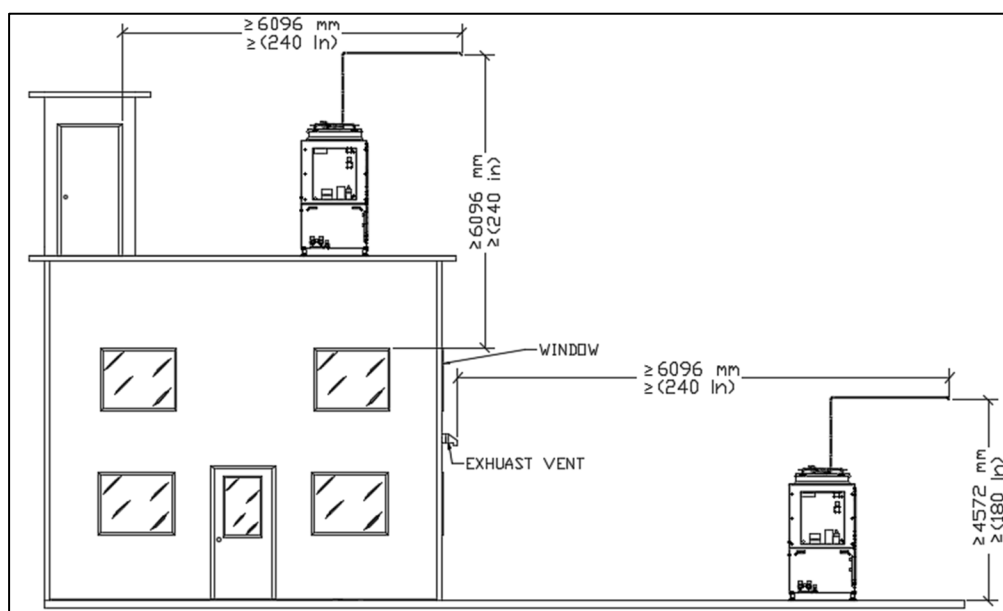

Figure 6 Dimensions required for PRV outlet locations
- ASHRAE 15 (9.7.8.2 b) The PRV must discharge not less than 6.1 m (20 ft) from any windows, ventilation openings, exits, or similar (Figure 6).
- ASHRAE 15 (9.7.8.2 a) The PRV must be discharged to the atmosphere at a location not less than 4.57 m (15 ft) above the adjoining ground level (Figure 6).